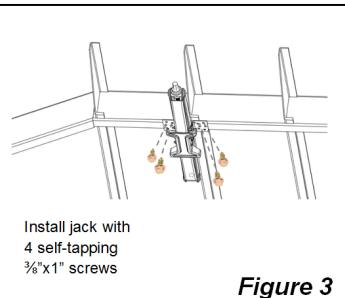

Figure 3
8. Reposition the jack and install the 4 self-tapping 3/8" x 1" screws, as shown in **Figure 3**. Turn screws until they seat and are tight.